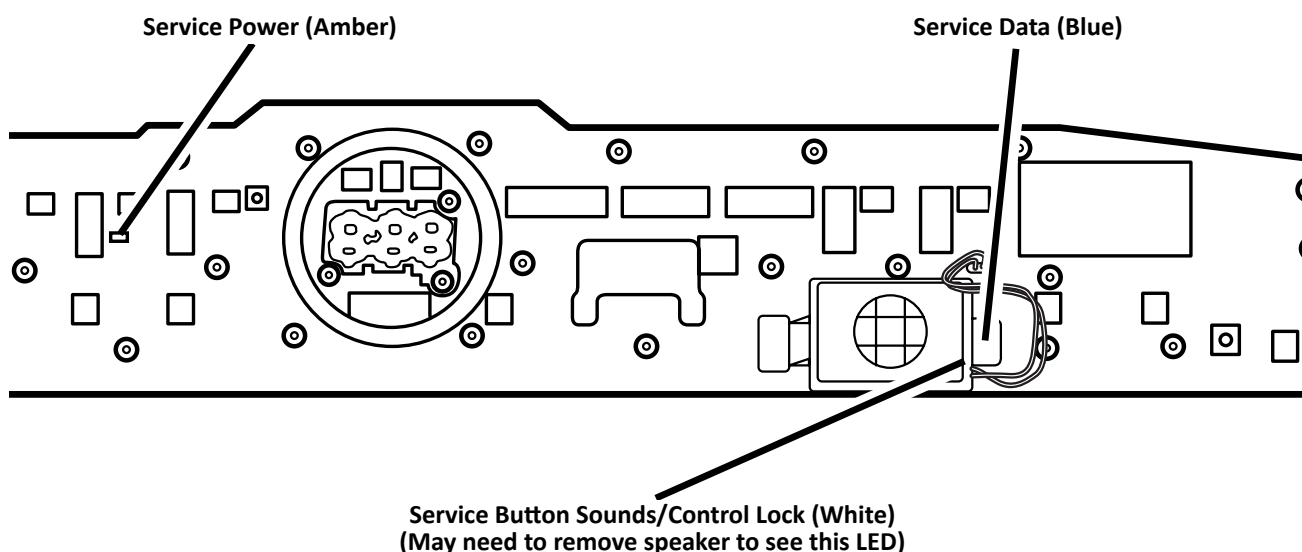

Figure 1 - Service LEDs on back of UI
- Verify that the basket light connector **J19** is securely connected to the main control (see Figure 1, page 3-5).
- Unplug the basket light connector **J19** from the main control (see Figure 1, page 3-5). Plug in washer or reconnect power.